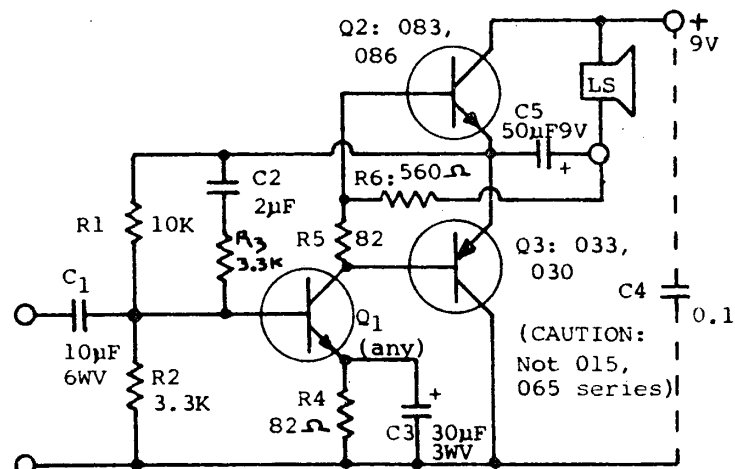

Fig. 8: The Maddever Computer-Tr. OTL Amp.
R. S. Maddever (VK3) has also provided a useful little circuit using computer board transistors, as in fig. 8, below. It gives a nice 130mW (RMS) across 15 ohms for about 100mV (RMS) input, depending on R3. For best results adjust R5 to just under the value which begins to increase quiescent (no signal) current of the output transistors. It is important not to use diffused alloy types, e.g. 015 & 065 in the output; the input transistor can be any NPN. The use of 030 & 071 (or 086) transistors in the output, if available, will undoubtedly increase max output power available; *even 026/076 would probably give improvement over 033/083 (see Amateur Radio, Aug & Dec 1969 for characteristics of computer board transistors). Use Grandma's tests to tell when maximum power is being achieved: namely, when output transistors get hot (germanium) or very hot (silicon), and/or when distortion (at any volume!) starts to become evident. Flag or cogwheel type heat sinks increase power rating, as long as peak currents do not drive the collector non-linear. I have a lot of notes on that subject too, and I suppose we'll have an article on design of OTL one day, but not until we work through the considerable backlog of articles which have been submitted; ah the drawbacks of Success. In interim, see the References, particularly ones marked for Theory.